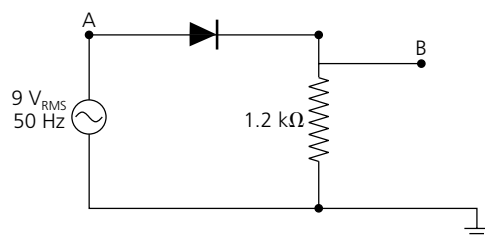

Figure 23.28
- **26 The circuit of Figure 23.28 is set up and includes a rectifying diode.